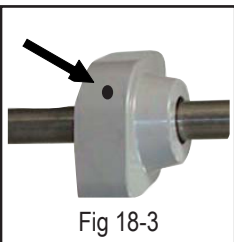

Fig 18-3
Step 2: Drill a small hole through the wall of the Glove® cover and into the edge of the base (see Fig 18-3).